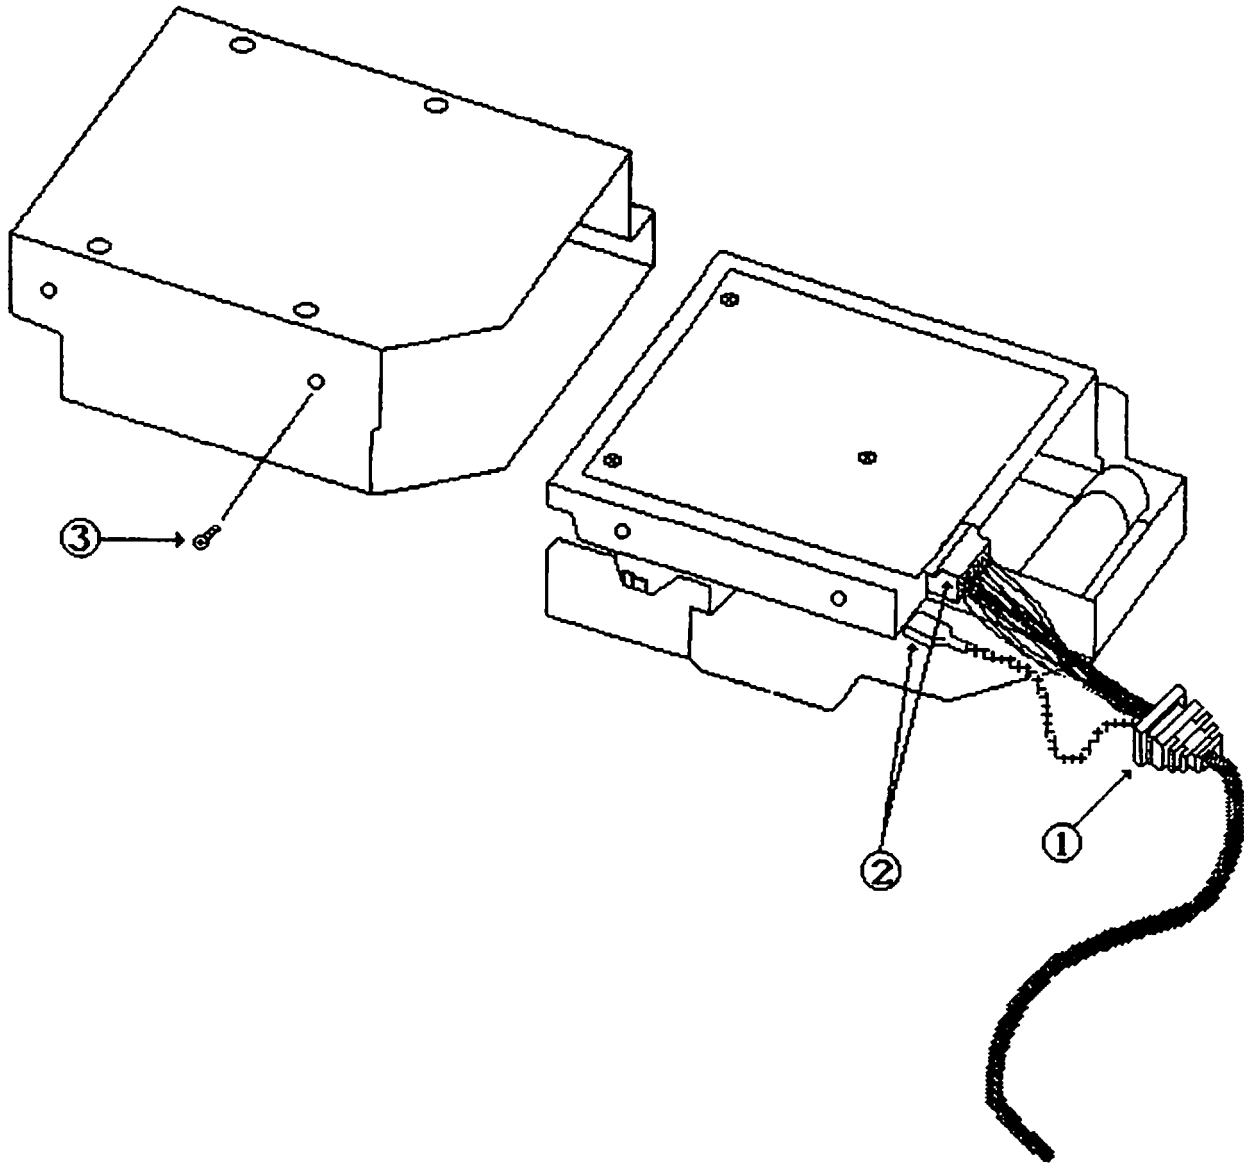

FIGURE 1
4. Lift up the cable grommet (see Figure 1, #1) from the case and support it with one hand; with the other hand lift up the back of the metal drive housing and remove the drive from the bottom cover.